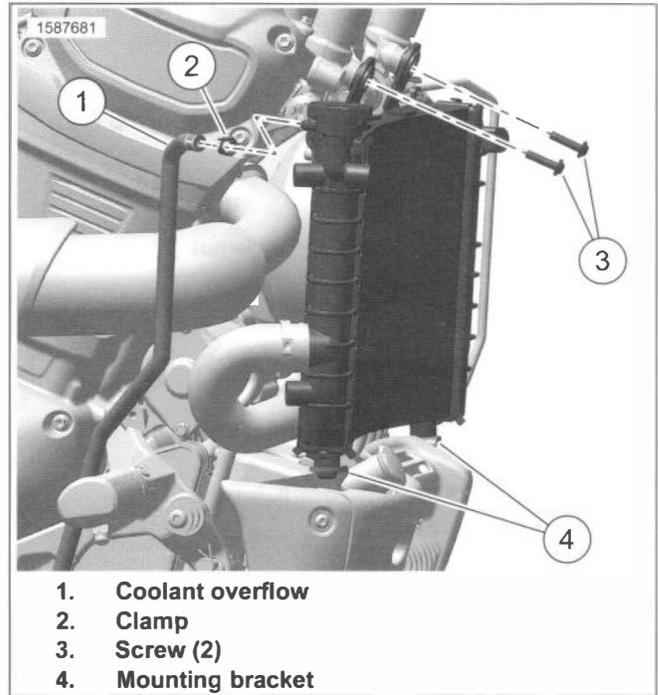
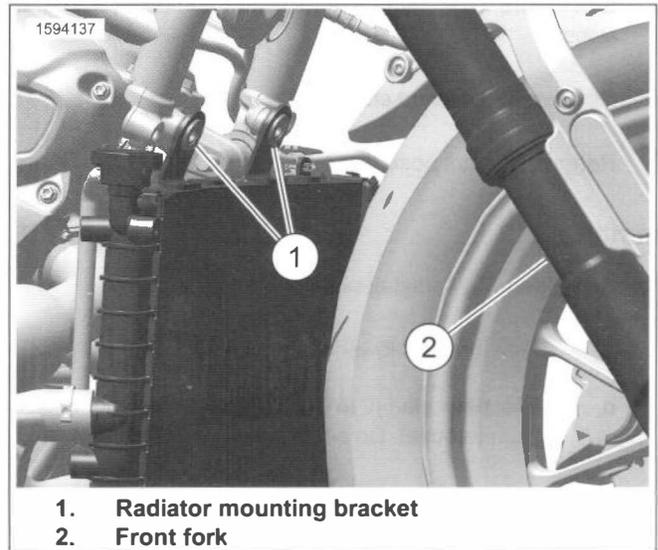

Figure 7-20. Radiator Relocating
Figure 7-21. Radiator Relocated
- b. See Figure 7-20. Remove screws (3).
- c. Remove clamp (2).
- d. Remove coolant overflow hose (1) from top hose barb.
- f. Lift radiator off mounting brackets (4).
- h. See Figure 7-21. Attach appropriate strap from radiator mounting bracket (1) around both front forks (2) securing radiator.
- b. See Figure 7-20. Install radiator bottom mounts on radiator mounting brackets (4).
- d. Install screws (3). Tighten.